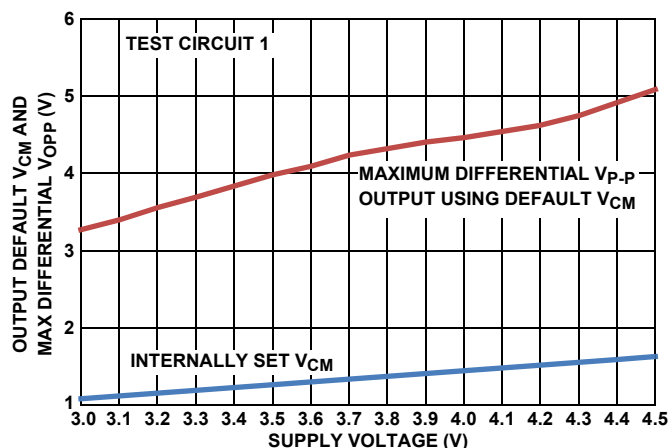
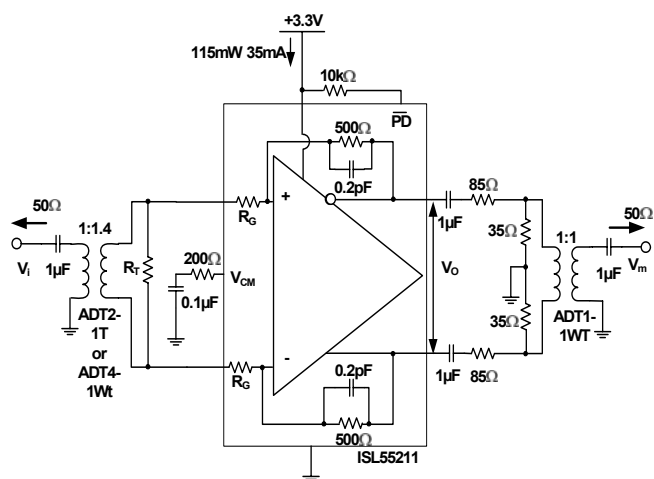
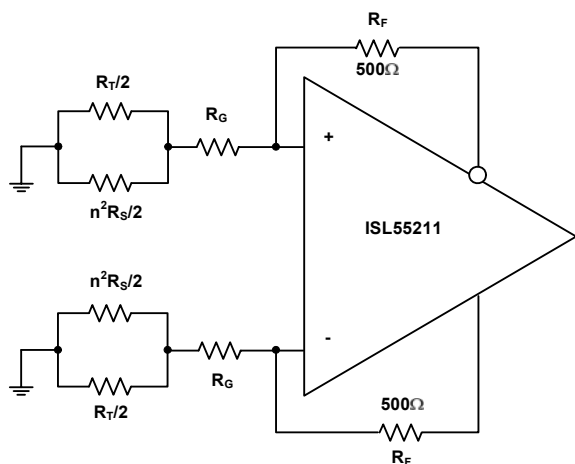
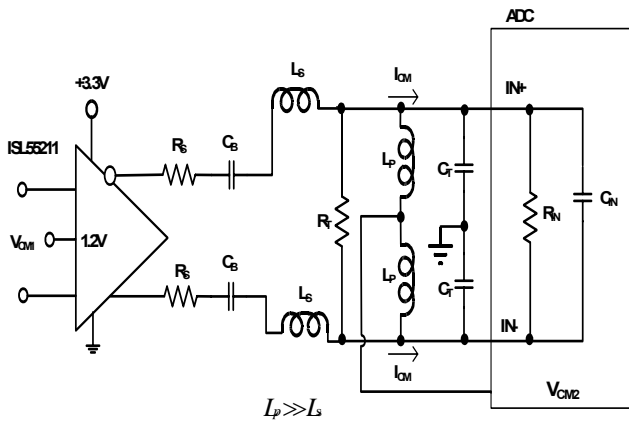

FIGURE 27. DEFAULT V_{CM} AND MAX V_{OPP} vs SUPPLY VOLTAGE
FIGURE 29. TEST CIRCUIT 1
FIGURE 35. NOISE GAIN MODEL FOR THE TRANSFORMER COUPLED INPUT CIRCUIT OF FIGURE 29
FIGURE 37. AC-COUPLED, HIGHER FREQUENCY RLC INTERSTAGE FILTER DESIGN
Test Circuit 1 of Figure 29 forms a starting point for many of the characterization curves for the ISL55211. Since most lab sources and measurement devices are single-ended, this circuit converts to differential at the input through a wideband transformer and would also be a typical application circuit coming from a single-ended source. Assuming the source is a 50Ω impedance, the internal R_G resistors and external R_T are set to provide both the input termination and the gain. Since the inverting summing nodes act as virtual ground points for AC signal analysis, the total termination impedance across the input transformer secondary will be $(2 * R_G) || R_T$. Setting this equal to $n^2 * R_S$ will give a matched input impedance inside the bandwidth of the transformer (where "n" is the turns ratio). The amplifier gain is fixed by the selected input R_G element and the internal 500Ω feedback resistors. While the ISL55211 is internally a Voltage Feedback Design (VFA) to give the lowest possible noise, internal compensation caps hold the bandwidth over gain setting approximately constant at 1.4GHz. For wider small signal bandwidth at lower gains, consider the ISL55210, which provides >2.2GHz at a gain of 12dB.
Working with a transformer coupled input as shown in Figure 29, or with two DC blocking caps from a differential source, means the output common mode voltage set by either the default internal V_{CM} setting, or a voltage applied to the V_{CM} control pin, will also appear as the input common mode voltage. This provides a very easy way to control the ISL55211 I/O common mode operating voltages for an AC-coupled signal path. The internal common mode loop holds the output pins to V_{CM} and, since there is no DC path for an I_{CM} current back towards the input in Figure 29, that V_{CM} setting will also appear as the input common mode voltage. It is useful, for this reason, to leave any input transformer secondary centertap unconnected. The internally set V_{CM} voltage is referenced from the negative supply pin. With a single 3.3V supply, it is very close to 1.2V but will change with total supply voltage across the device as shown in Figure 27.
Most of the characterization curves starting with Figure 29 then get different gains by changing the connections to the two pairs of input R_G connections, as shown on the pin configuration drawing on page 2. Two input turns ratios are intended for Test Circuit 1; either a 1:1.4 turns ratio (ohms ratio of 2) or a 1:2 turns ratio (ohm ratio of 4). The specific transformers shown in Figure 29 are representative of broadband RF transformers but alternate devices and manufacturers of these turns ratio devices are certainly applicable. The output side of this test circuit presents a differential 200Ω load while converting the differential to single-ended through a resistive attenuator and a 1:1 transformer. This inserts approximately a 17dB insertion loss that is removed to report the characteristic curves. For load tests below the 200Ω shown in Figure 29, a simple added shunt resistor is placed across the output pins. For loads > 200Ω, the series and shunt load R's are adjusted to show that total load (including the 50Ω measurement load reflected through the 1:1 output measurement port transformer) and provide an apparent 50Ω differential source to that transformer. This output side transformer is for measurement purposes only and is not necessary for final applications circuits. There are output interface designs that do benefit from a transformer as part of the signal path as shown in Figure 1. In that case, the 1:1:4 output side transformer becomes part of a filter design and recovers the filter insertion loss from the amplifier output pins to the ADC inputs.
The characterization circuit of Figure 29 shows one possible input stage interface that offers several advantages. Where AC coupling is adequate, the circuit of Figure 29 simplifies the input common mode voltage control. If the source coming into this stage is single-ended, the input transformer provides a zero power conversion to differential. The two gain resistors (R_G in Figure 29) provide both a portion of the input termination impedance and the gain element for the amplifier. For 50Ω systems, these R_G resistors are too high with the turns ratios shown in Figure 29 to provide the full match and an external R_T resistor is required. This R_T element goes away at the highest gain setting using a 1:2 input turns ratio transformer.
This input interface also simplifies the input common mode control. The V_{CM} pin controls the output common mode voltage. In most DC-coupled FDA applications, the input common mode voltage is determined by both this output common mode and the source signal. In a configuration like Figure 29, there is no path for a common mode current to flow from output to input, so the input common mode voltage equals the output. A similar effect could be achieved with just two blocking caps on the two R_G resistors. A DC-coupled, single to differential, configuration will also have a common mode input that is moving with the input signal. Converting to just a differential signal at the amplifier, as in Figure 29, removes any input signal related artifacts from the input common mode making the ISL55211 behave as a differential only VFA amplifier. There is only a very small differential error signal at the inputs set by the loop gain, as in a
maximum differential $V_{p,p}$ swing will be 4x this 0.6V single-ended limit or $2.4V_{p,p}$. Where $+V_s$ is increased, the limit then becomes the 0.9V below V_{CM} , but then the absolute maximum differential $V_{p,p}$ is then $4 \times 0.9V$ to $3.6V_{p,p}$. So for instance, to get this maximum output swing, increase the supply voltage until $+V_s - 1.5V > V_{CM} + 0.9V$. If we assume a V_{CM} voltage of 1.3V for instance, then $1.3V + 0.9V + 1.5V = 3.7V$ will give an unclipped $3.6V_{p,p}$ output capability. The $V_{p,p}$ reported in Figure 27 is an asymmetrically clipped maximum swing. Going 10% above this 3.7V target to 4.1V will be within the recommended operating range and give some tolerancing headroom that would also suggest the V_{CM} voltage be moved up to approximately 1.5V, which coincides with the default output V_{CM} from Figure 27. Operating at +4.1V single supply in a Figure 29 type configuration will give the maximum linear differential output swing of $3.6V_{p,p}$.
The differential inputs internal to the ISL55211 also have operating range limits relative to the supply voltages. Operating in an AC-coupled circuit like Figure 29 will produce an input common mode voltage equal to the outputs. The inputs can operate with full linearity with this V_{CM} voltage down to 1.1V above the $-V_s$ supply. On the default 1.2V output V_{CM} on +3.3V supplies this gives a 100mV guardband on the input V_{CM} voltages. Overriding the default V_{CM} by applying a control voltage to the V_{CM} pin should be done with care in going towards the negative supply due to this limit. On the + side, the maximum input V_{CM} above the $-V_s$ supply is 2V so there is more room to move the output V_{CM} up than down from the default value.
+85°C maximum operating ambient from Figure 27, we get 4.5V*45mA*+120°C/W = +24°C rise above +85°C or approximately +109°C operating T_J maximum - still well below the specified Absolute Maximum operating junction temperature of +135°C.
Adding an input transformer can improve the input referred noise by adding a noiseless voltage gain. Starting from Test Circuit 1 of Figure 29, and assuming the source shows a matched broadband source R_S that will be matched by the input referred parallel combination of 2*R_G || R_T, a noise gain analysis circuit can be developed as shown in Figure 35.
Stepping through the 3 gain settings with two input transformers will allow the noise gain to be calculated for the circuit of Figure 35, which is all that is needed in Equation 1 to arrive at an output differential noise (since R_F is fixed at 500Ω). Doing this gives Table 4.
2. AC-coupled, higher frequency range interstage filter design. This design replaces the R_T resistors in Figure 35 with large valued inductors and implements the filter just using shunt resistors at the end of the RLC filter. In this case, the ADC V_{CM} can be tied to the centerpoint of the bias path inductors (very much like a Bias-T) to provide the common mode voltage and current to the ADC inputs. These bias inductors do limit the low frequency end of the operation where, with $1\mu\text{H}$ values, operation from 10MHz to 200MHz is supported using the approach of Figure 37.